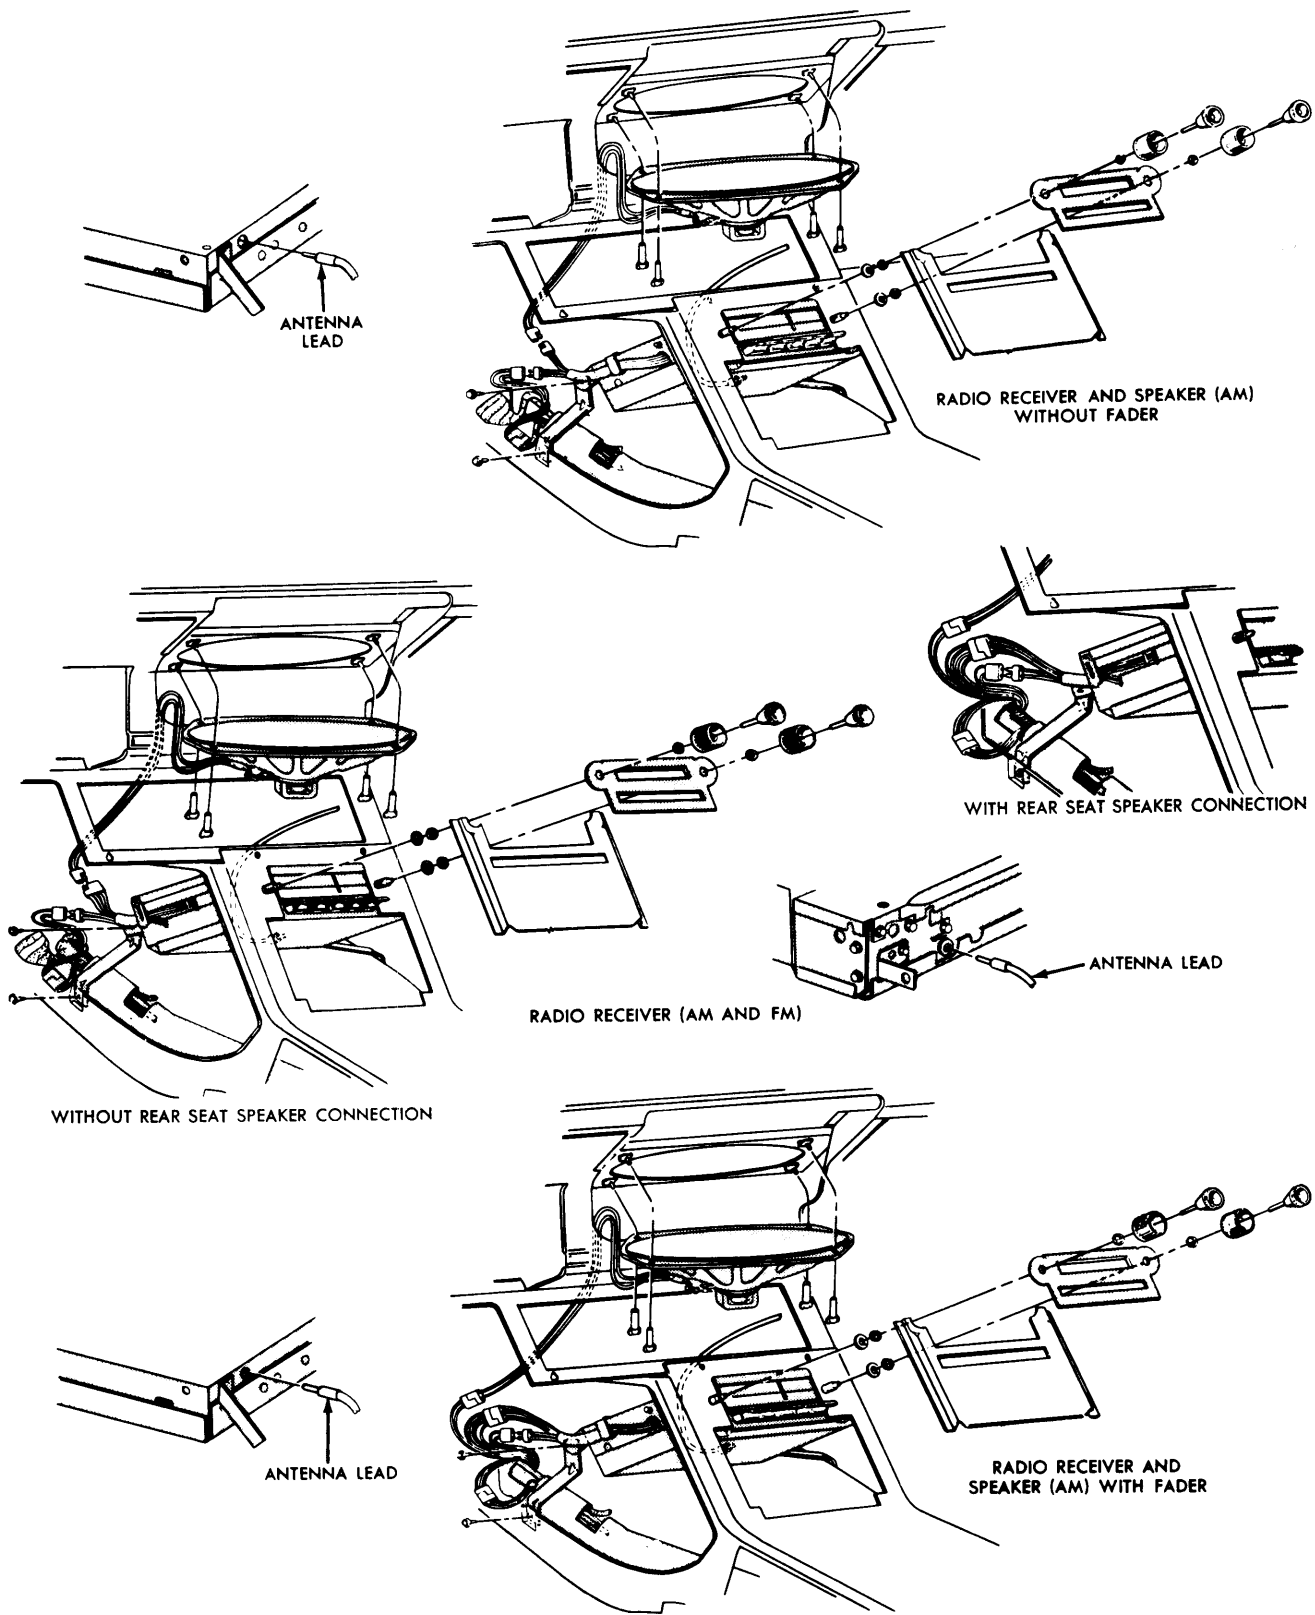

FIG. 1 - Speaker Lead Connections
4. Connect the speaker lead (Fig. 1).